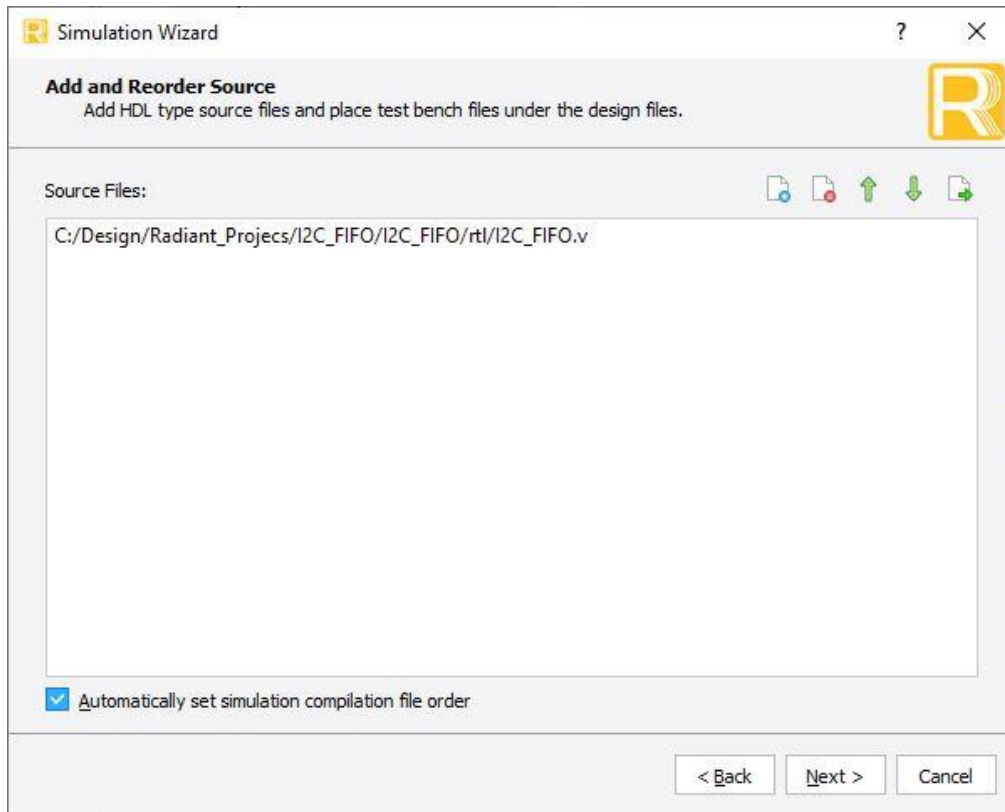

Figure 3.5. Adding and Reordering Source
3. Double-click **Next** to open the **Add and Reorder Source** window as shown in Figure 3.5.